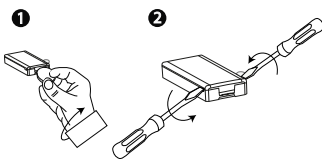

Figure 4: Device cover removal
- Remove the cover. See Figure 4.